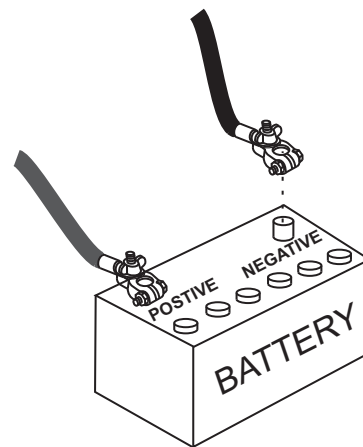

Figure 34. Battery Connections
3. Connect the negative battery cable (BLACK) to the negative post on the battery (Figure 34).